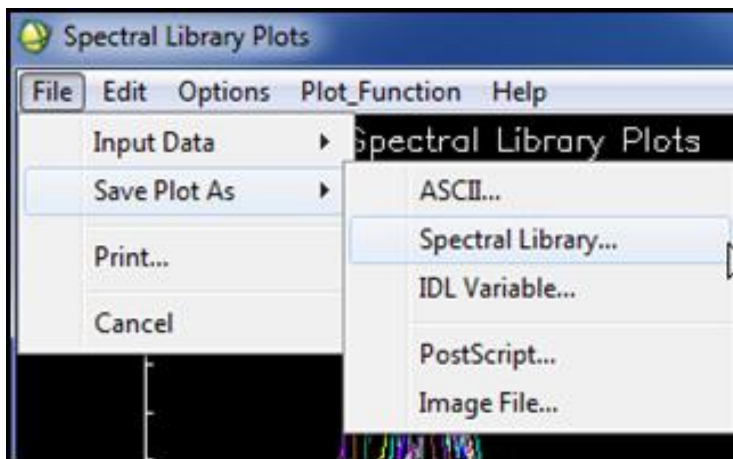

Figure 5.10e. Saving Spectral Library
- Save the file as a Spectral Library (Figure 5.10e).